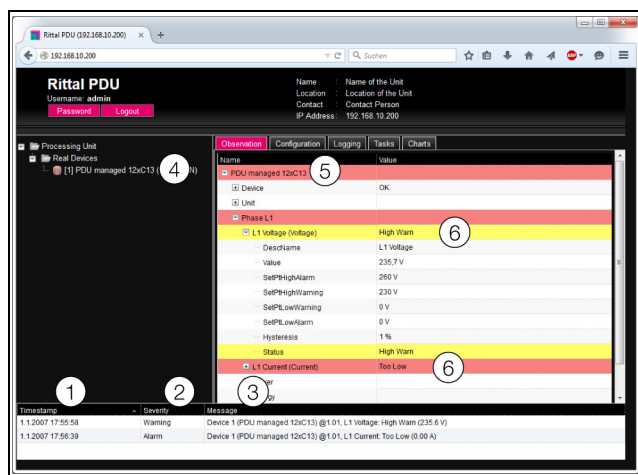

Fig. 28: Layout of message display
1. Timestamp: The date and time when the error occurred (fig. 28, item 1).
2. Severity: Severity of the error. A distinction is made between Warnings and Alarms (fig. 28, item 2).
3. Message: Error message in plain language (fig. 28, item 3).
- Left-hand section (navigation area): In the navigation area, the symbol preceding the component where the error occurred appears red in the event of an alarm message and yellow in the event of a warning message (fig. 28, item 4).
- Right-hand section (configuration area): On the **Observation** index tab, the entire component and the specific parameter to which the warning or alarm applies appears red or yellow (fig. 28, items 5 and 6).